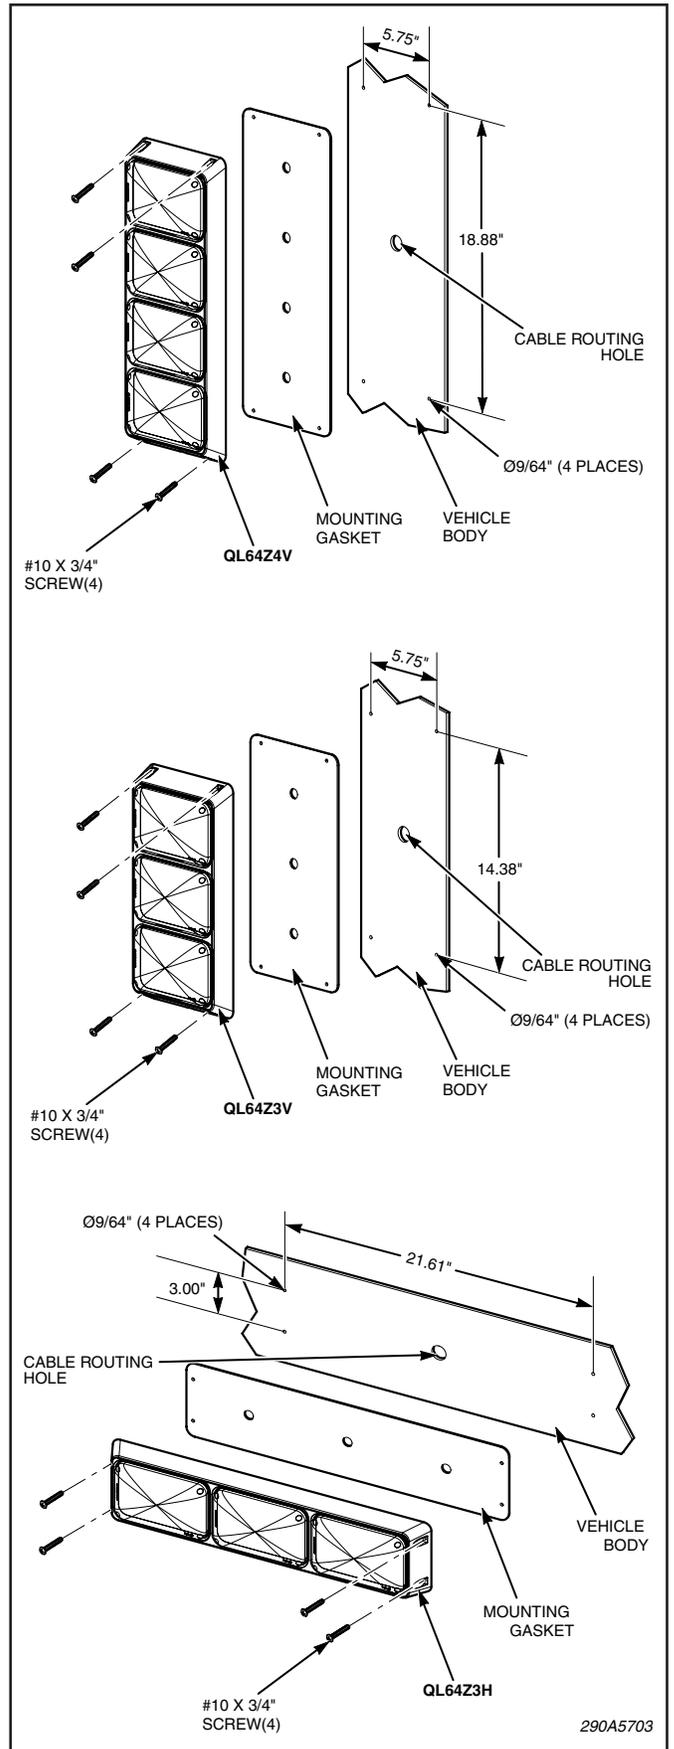

Figure 1.
For maximum coverage and effectiveness, each respective light assembly must be mounted in the orientation shown in figure 1. Make certain that the drain hole in each bezel casting is orientated on the bottom prior to mounting.
1. See figure 1. Position the QuadraFlare warning light assembly on the desired mounting surface. Ensure that the unit is level side to side. Using the QuadraFlare warning light assembly as a guide, and the provided dimensions in figure 1, scribe the four mounting hole locations and a wire routing hole location on the mounting surface.
5. See figure 1. Align the mounting gasket and QuadraFlare warning light assembly over the previously drilled holes. Carefully place any wire or connectors into the recessed area in the back of the aluminum bezel. Secure the assembly in position with the provided #10 x 3/4" screws.